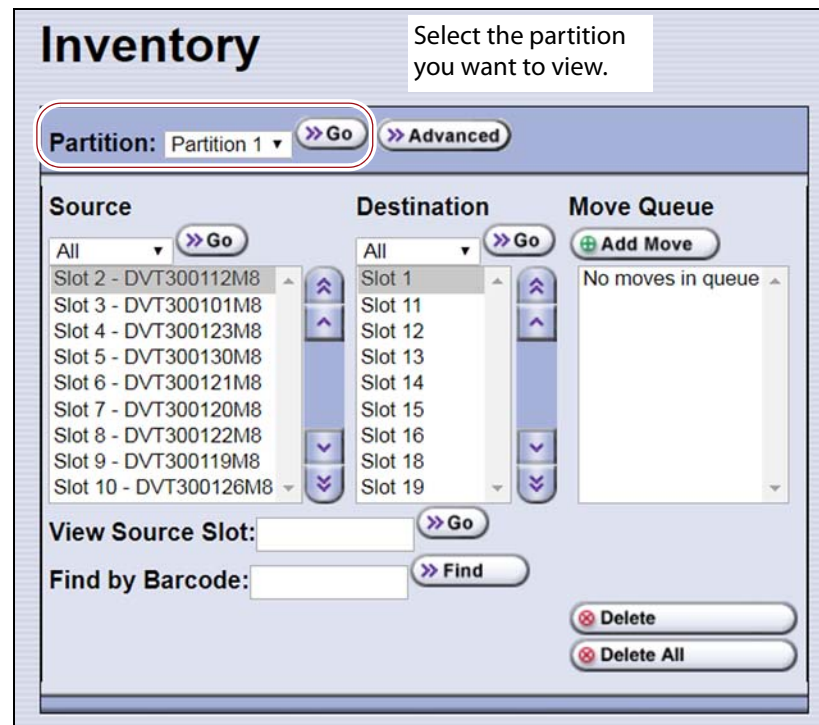

Figure 120 The Inventory screen.
4. If you want to download the inventory for a partition other than the one currently displayed, select the desired partition from the **Partition** drop-down list, then click **Go** (see Figure 120 on page 231).